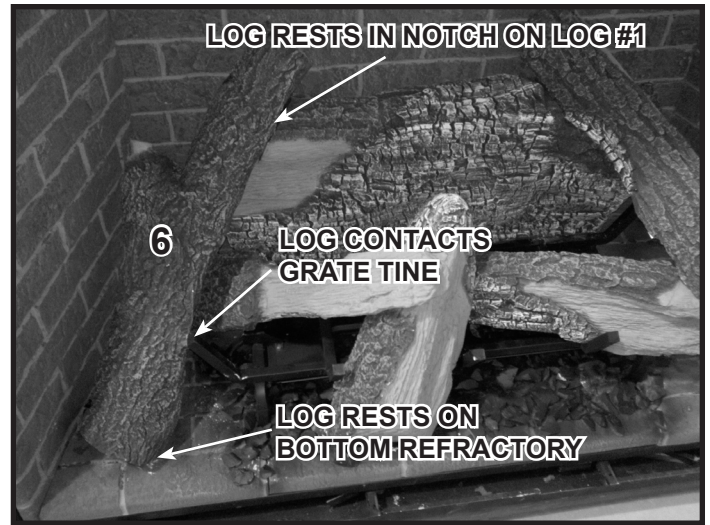

Figure 11
**Log #6 (SRV2282-746):** Place Log #6 into left side of appliance as shown in Figure 11. Base of log will sit on bottom refractory and notch on log will rest against grate tine. Lean top of log into notch on Log #1. See Figure #2.